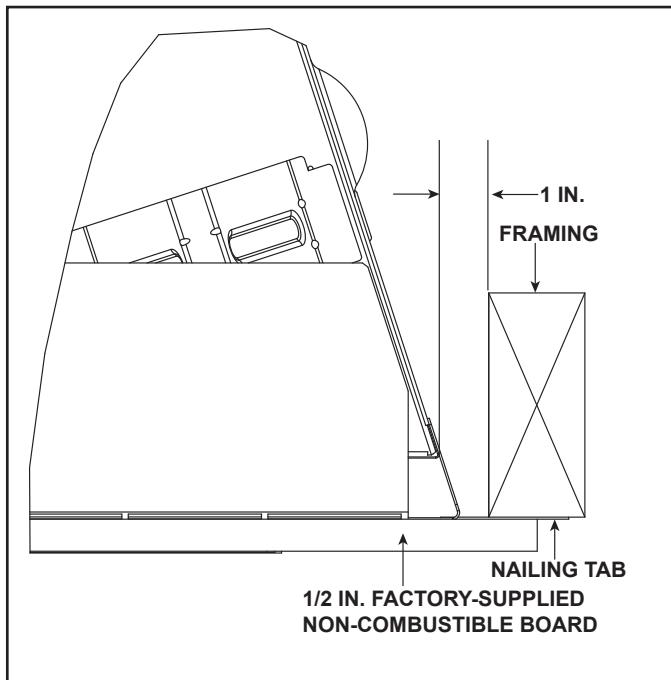

Figure 13.2 Front Side Finishing Detail
2. Screw each nailing tab to the adjoining framing material. Ensure that the 1 inch air space clearance is maintained on the sides of the fireplace. See Figure 13.2.